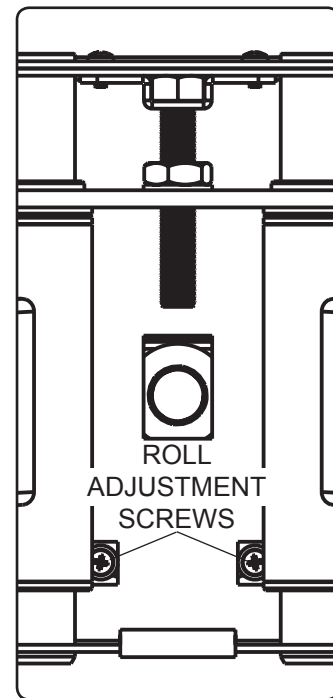

fig 7.1
- 7** Depending on the specific size & weight of the plasma, articulating swing arm may be angled at different positions, causing plasma to appear to lean sideways at different articulating positions. Tilt roll assembly (B) allows plasma to be manually adjusted, so plasma can be horizontal at all positions. To adjust, gently rotate plasma by hand to desired position.
- 7-1** If it is too difficult to adjust roll of plasma, loosen screws shown in figure 7.1 using a phillips screwdriver.